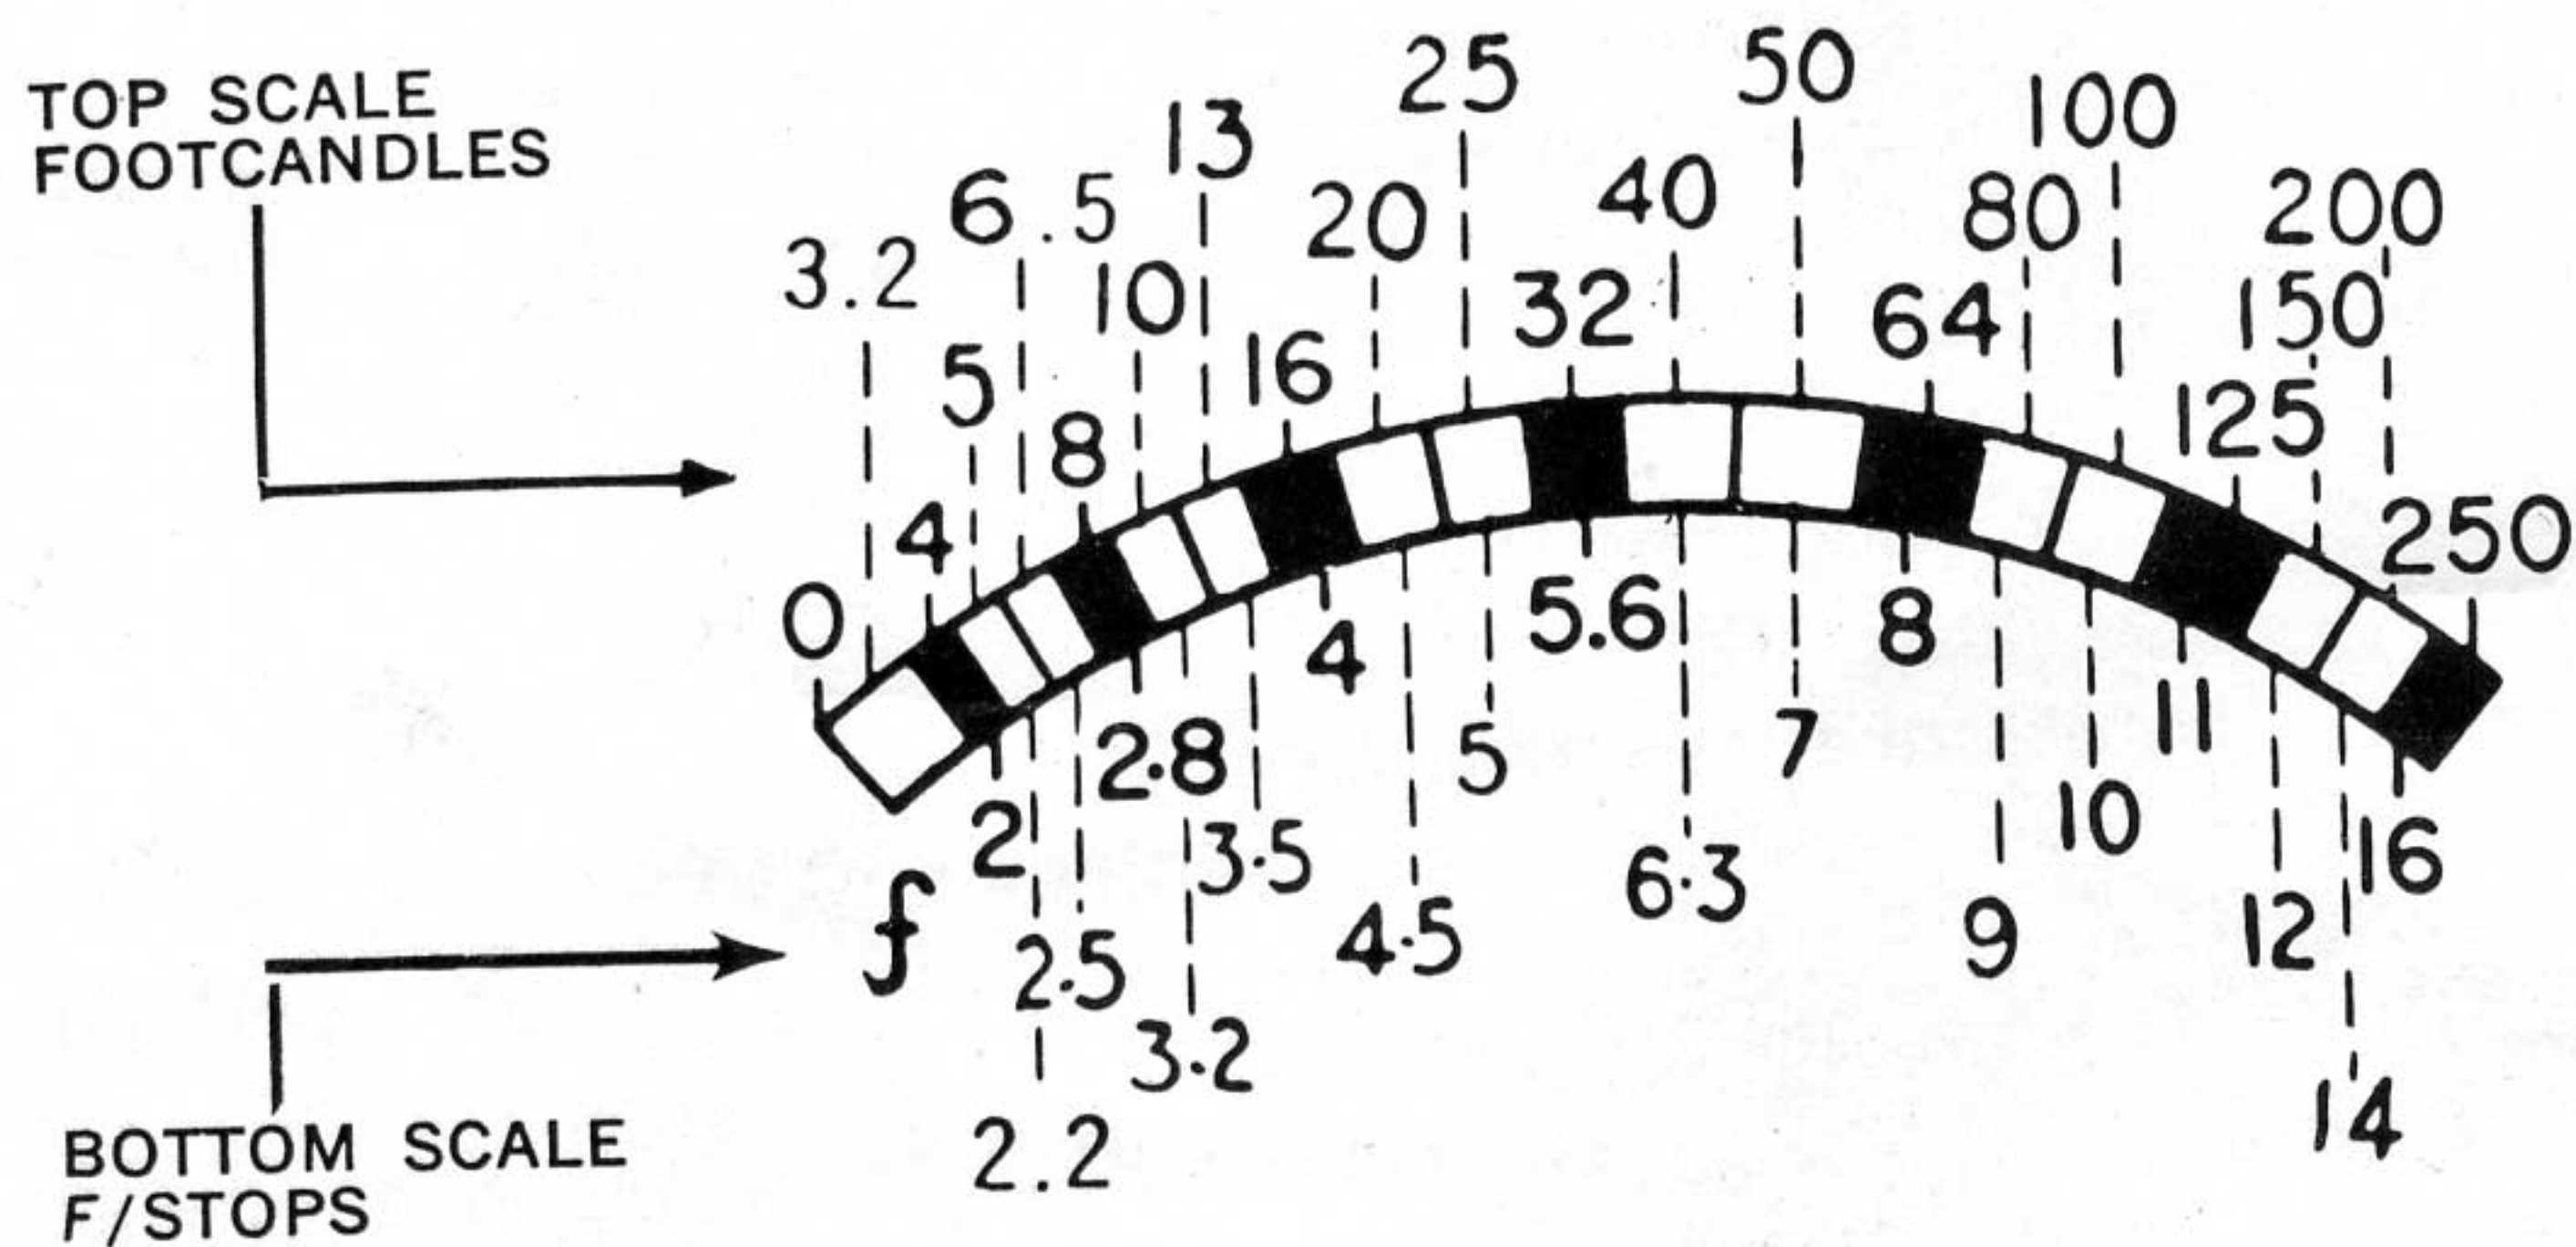
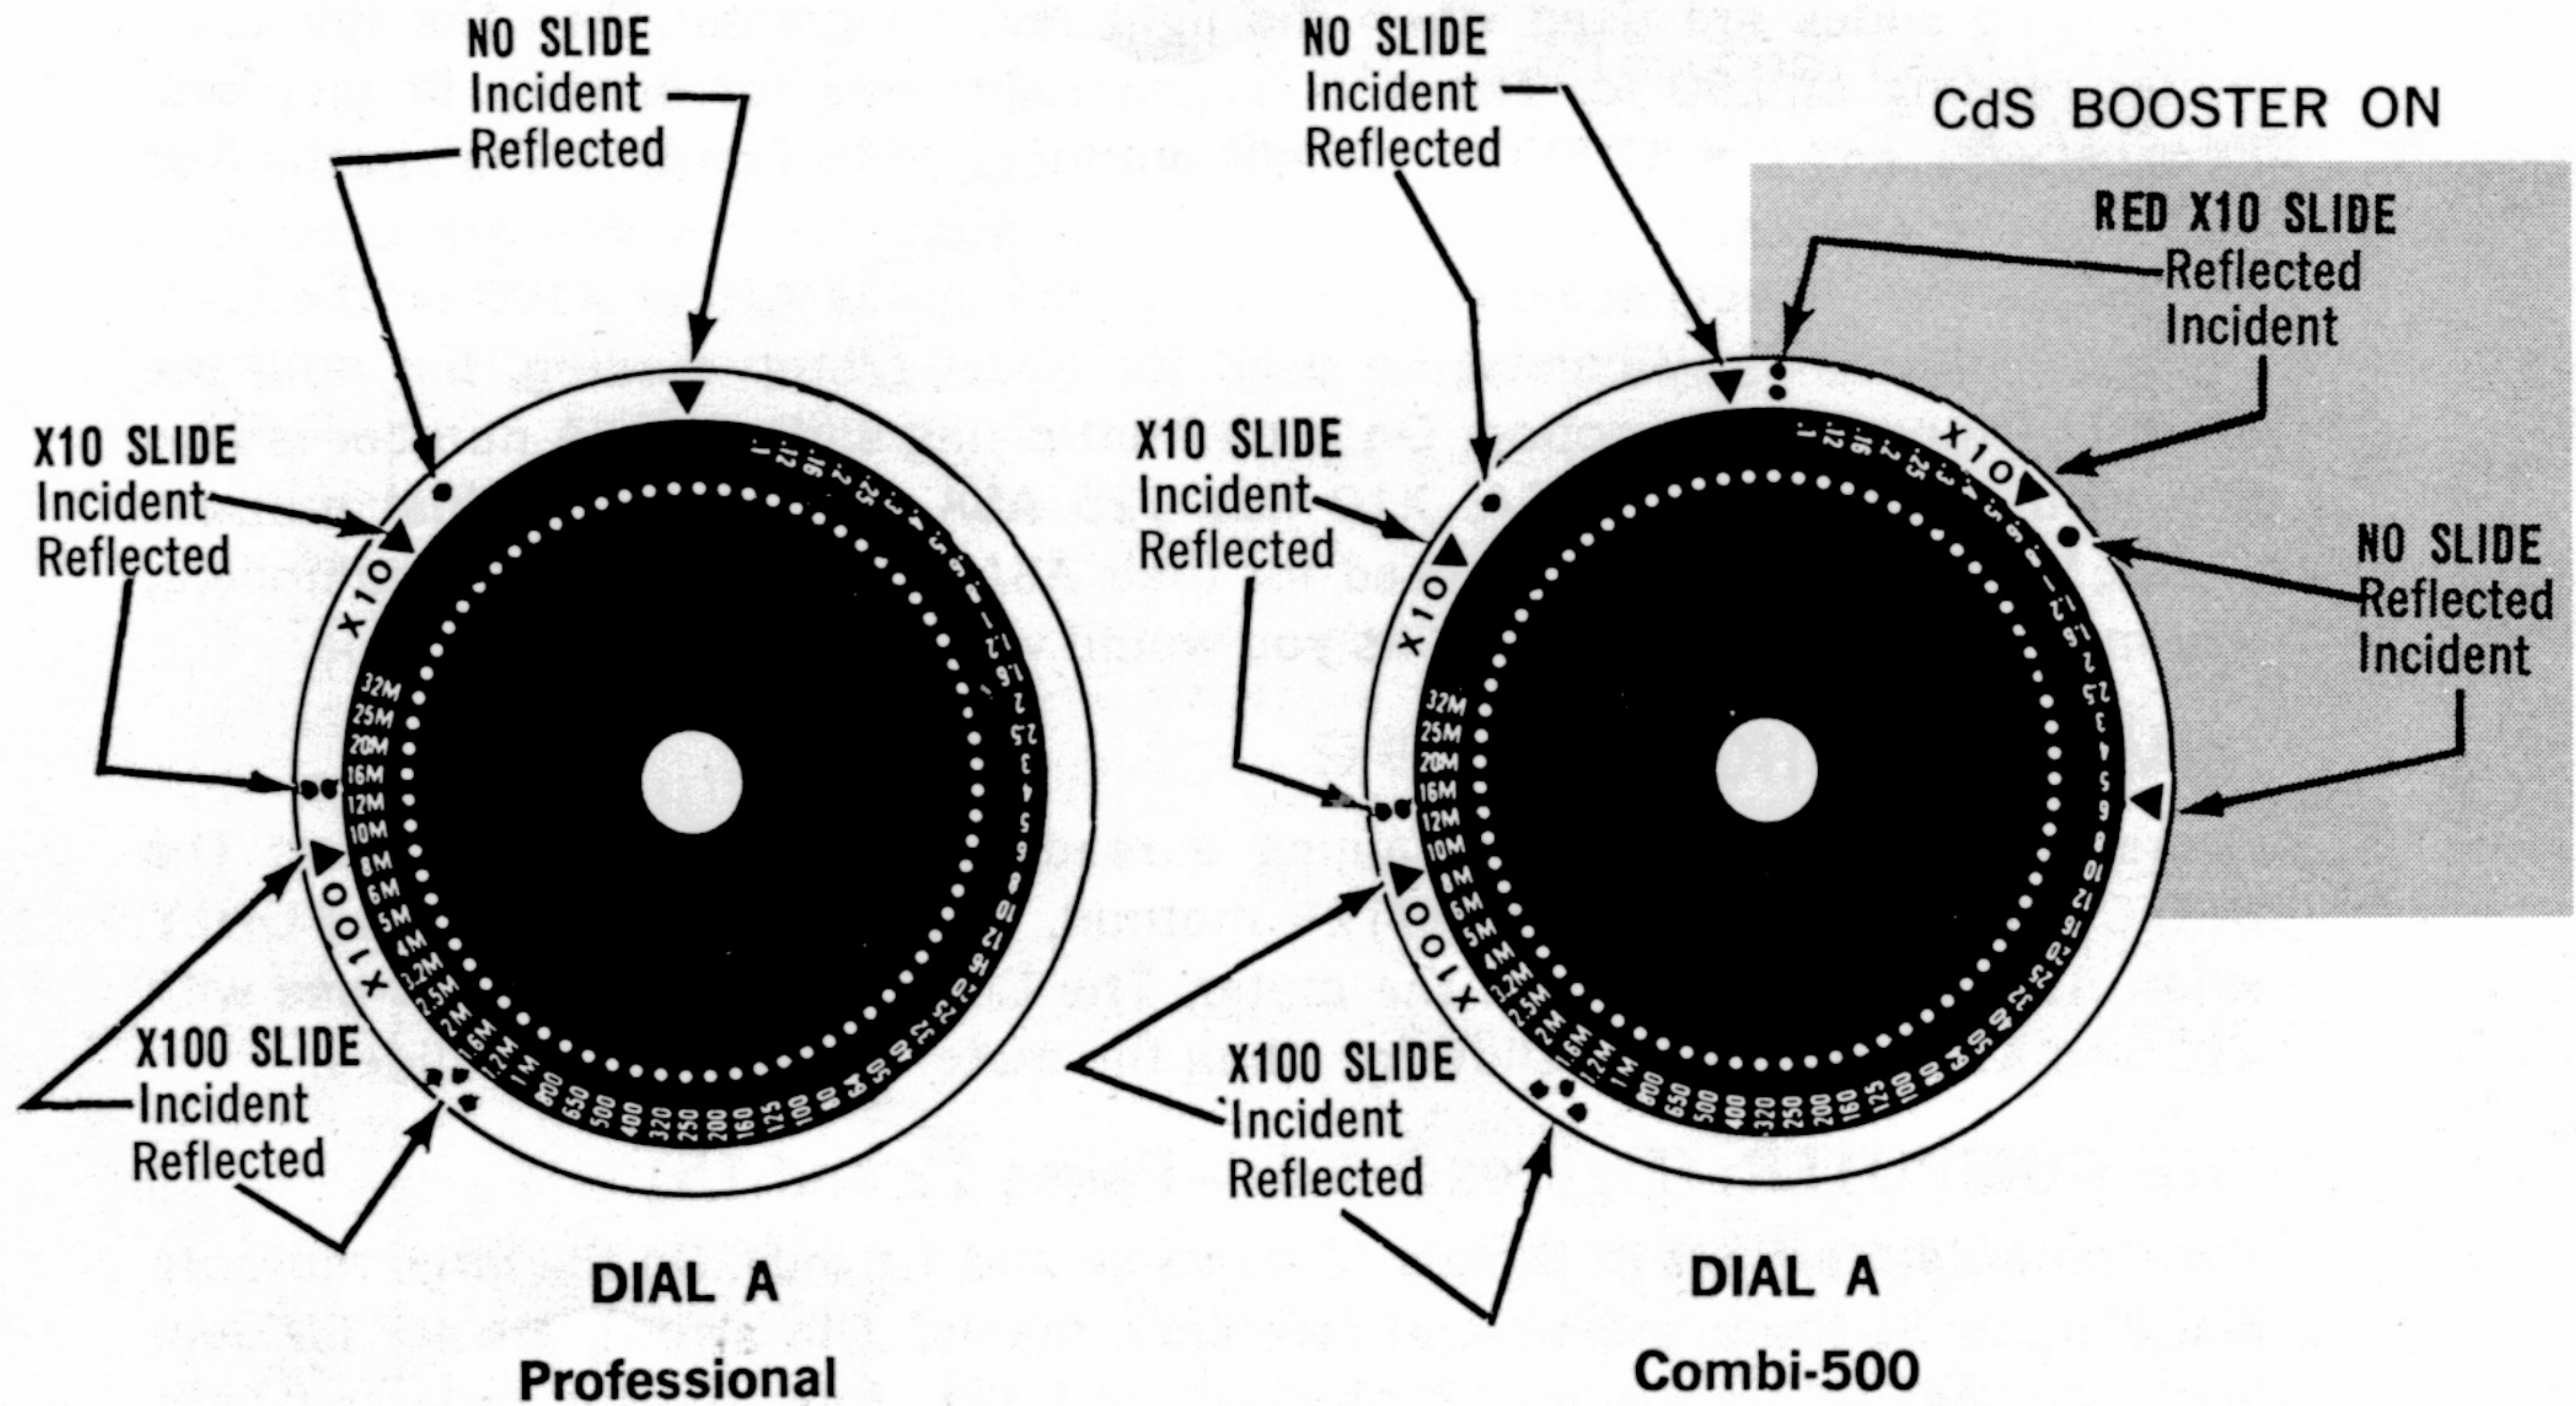

Figure 2
Figure 3
## **METER SCALE:** (Figure 2 — Page 6)
For reading intermediate values on the meter scale, refer to Figure 2—Page 6.
**TO USE:** Insert the appropriate slide ALL THE WAY into the meter (2), take reading in the usual way (Page 7), and read your f/stop directly from meter scale (Figure 2 — Page 6) — bottom numbers — without referring to the computer.
Multiplying slides are used when the light level is greater than the full scale meter reading of 250 fc. The X10 is generally used for brightly lit interiors, studios, etc., and the X100 for daylight outdoors. With Combi-500 a special Red X10 slide is provided for use with Booster. Multiplying slides are used with the footcandle (upper) scale (Figure 2) and the marks X10 or X100 on the computer (Figure 3). They cannot be used for direct f/stop reading, but note the following important exception. On each multiplying slide an ASA number is also engraved; X100 has 12 ASA, X10 has 125 ASA, making these **dual purpose** slides. When these slides are used for their ASA values, **and not as multipliers**, you may read the f/stop direct, as you would with any standard ASA slide.
## THE COMPUTER: (Figures 3 & 4 — Pages 12 and 15)
The Computer consists of 3 dials (2 movable and 1 fixed). On the large movable dial (Figure 3) there are several reference marks. The arrows are for *incident light* readings (Photosphere/Photodisk) and the dots are for *reflected light* readings (Photogrid). Use as follows: